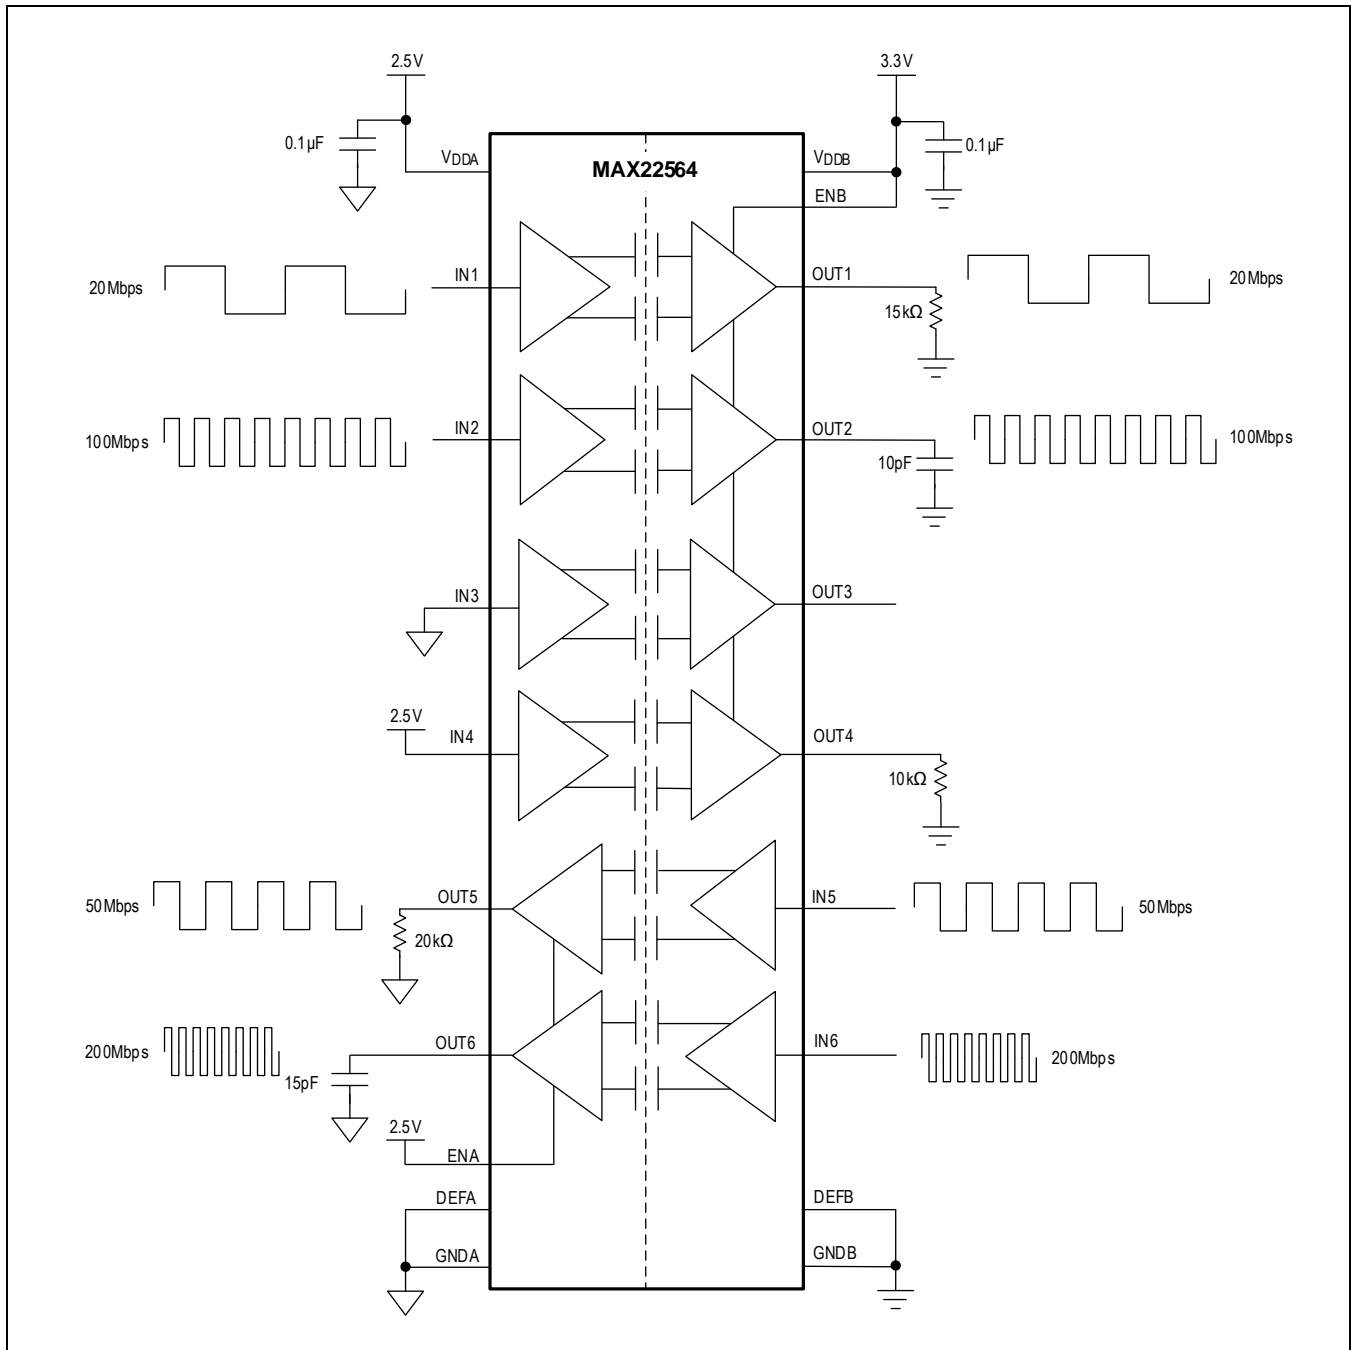

Figure 11. Example Circuit for Supply Current Calculation
**Example** (shown in Figure 11): A MAX22564C is operating with  $V_{DDA} = 2.5V$ ,  $V_{DDB} = 3.3V$ , channel 1 operating at 20Mbps with a 15k $\Omega$  resistive load; channel 2 operating at 100Mbps with a 10pF capacitive load; channel 3 is not in use and the resistive load is negligible since the isolator is driving a CMOS input; channel 4 held high with a 10k $\Omega$  resistive load; channel 5 operating at 50Mbps with a 20k $\Omega$  resistive load; and channel 6 operating at 200Mbps with a 15pF capacitive load. See Table 4 and Table 5 for  $V_{DDA}$  and  $V_{DDB}$  supply current calculation worksheets.